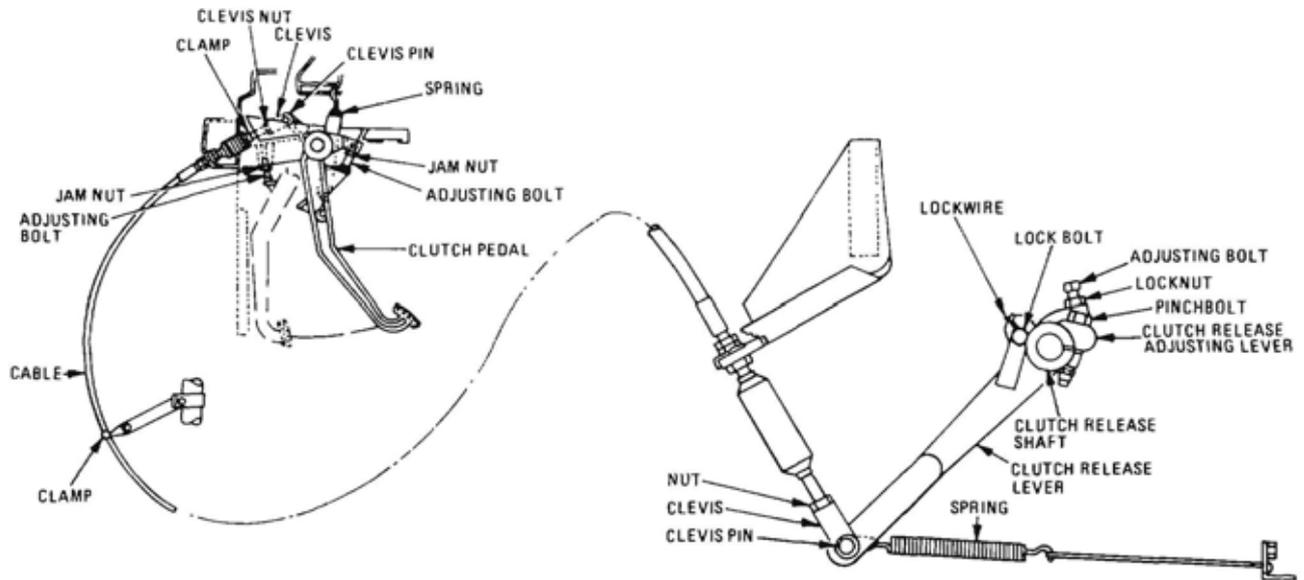

Figure 54 Clutch Control Arrangement
77. The clutch is cable actuated with the cable assemblies consisting of an outer plastic lined sheath with threaded terminal ends, clamping nuts, a stranded inner steel cable, and rubber boots for end sealing. When the firewall mounted pendant pedal is depressed, movement of the clutch lever pulls the inner cable and actuates the clutch release lever pulling the release bearing away from the pressure plate, disengaging the clutch. Clutch spring pressure and retractor springs return the clutch pedal when foot pressure is released, re-engaging the clutch (Figure 54).